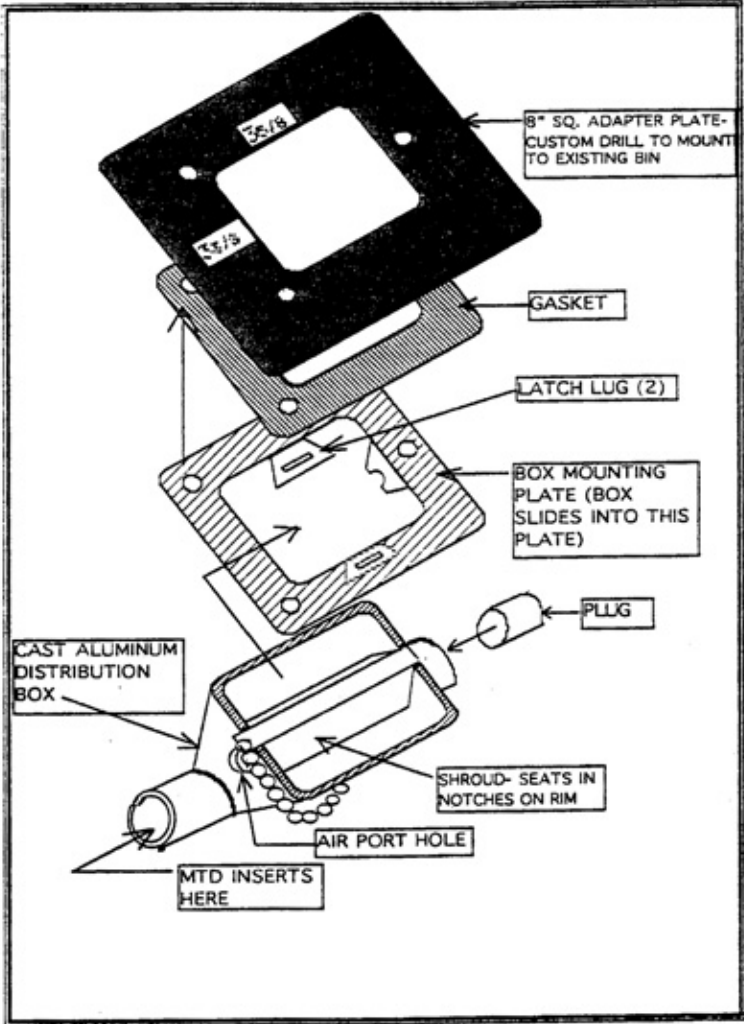

FIGURE 5 - CUSTOM DISTRIBUTION BOX
**DESCRIPTION****CUSTOM DISTRIBUTION BOX** (See Figure 5, Next Page)
The **Custom Distribution Box Option** provides a means of adapting one or two MTD's to an existing bin, hopper, etc... for efficient conveyance of material to one or two receivers. This "Kit" is depicted in Figure 5. Notice that the box slides into its mounting plate and latches securely with two cam-lock type latches (real easy to remove and clean). Note the dual outlets with O'ring gaskets for receiving the MTD's. A plug is provided in one outlet to permit the standard of one MTD employed. To employ a second MTD, remove the box, and push the plug out.